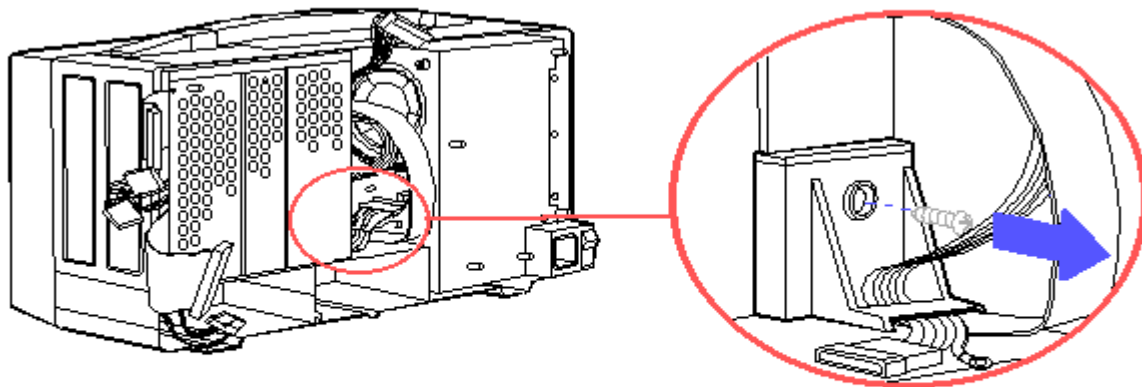

Figure 8-91. Removing the Strain Relief Bracket Screw
11. Remove the screw that secures the strain relief bracket to the main enclosure (Figure 8-91).